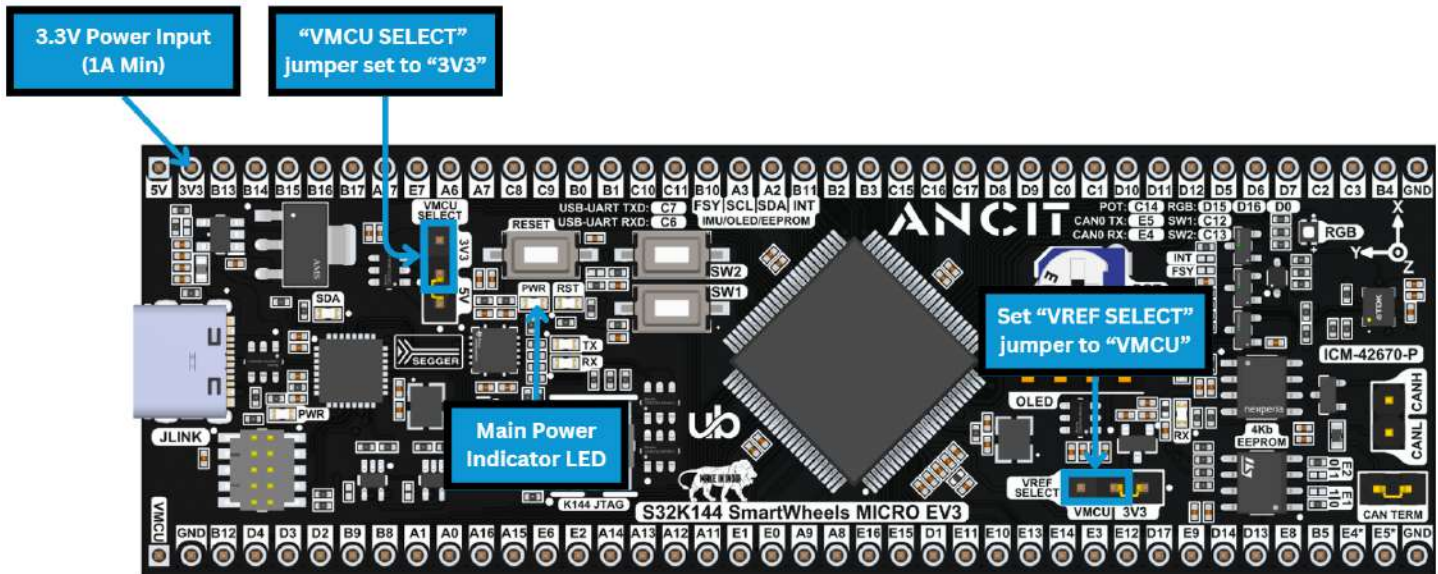

Fig 4 : Powering through 3V3 Power Pin
- The “PWR” LED is mentioned in Fig 4. indicates that power is being received by the SmartWheels EV3.